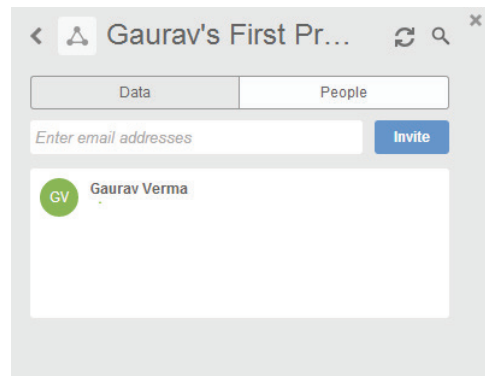

Figure-79. People section in Data panel
- In **People** section, the information of users will be displayed who can access the files; refer to Figure-79.